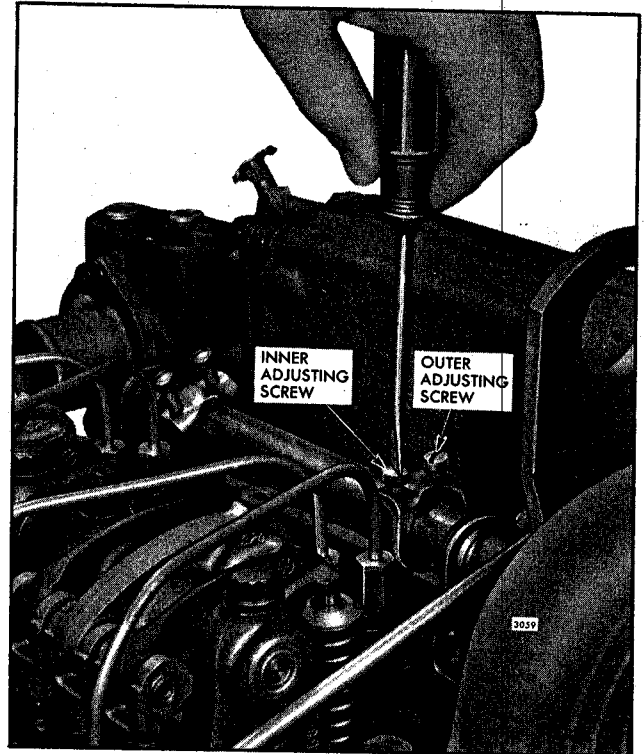

Fig. 2 - Adjusting Height of Rack Control Lever Adjusting Screws
1. Adjust the inner and outer adjusting screws (Fig. 2) on the rear injector rack control lever until both screws are equal in height and tight on the control tube. Check the clearance between the fuel rod and the cylinder head casting (below the bolt) for at least 1/16" clearance when the injector rack is in the *full-fuel* position and the rack adjusting screws are tight. If the fuel rod contacts the bolt or cylinder head casting, re-adjust the screws to obtain the 1/16" clearance.